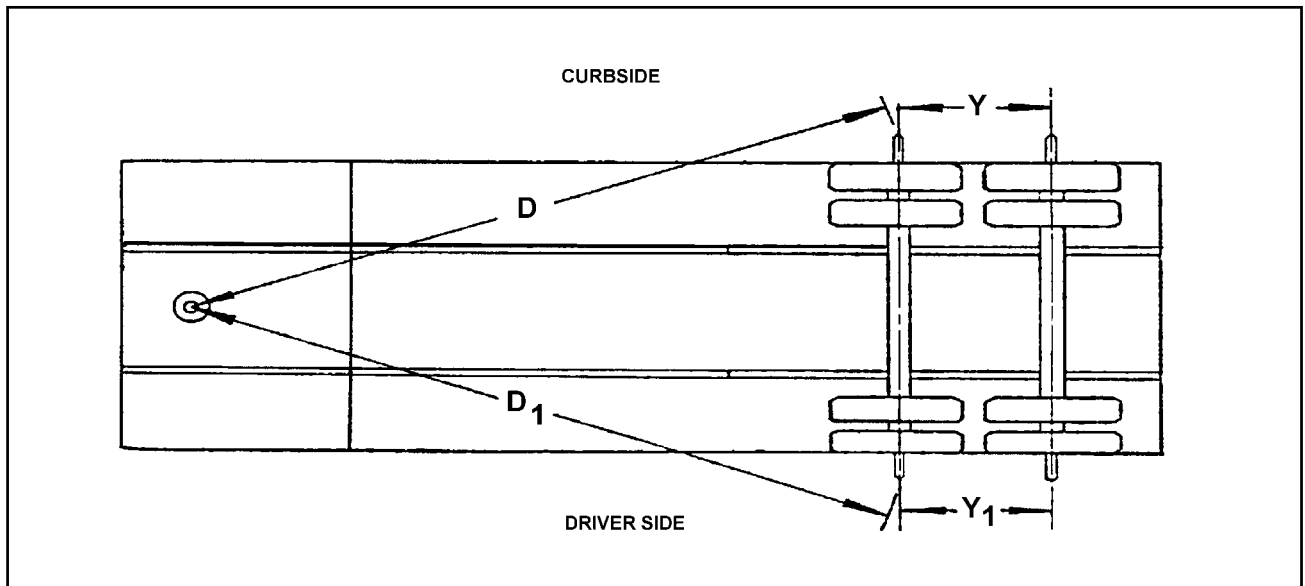

Figure 4-5 Checking Axle Alignment
4. Measure (D) from the plumb bob to the center point on one end of the axle. Record this measurement (**See Figure 4-5**).
5. Measure (D1) to the other end of the axle in the same manner as in Step 4. Record this measurement (**See Figure 4-5**).